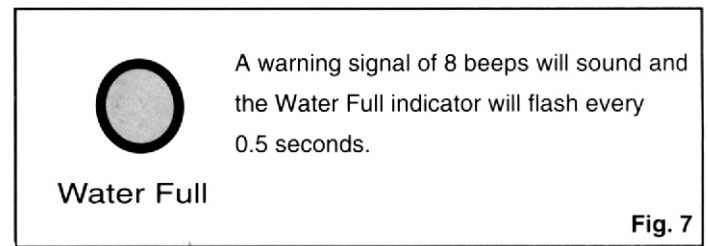

Fig. 7
**Water Full Indicator Light:** Flashes red when the water level of the water tank exceeds the maximum set level or if the water tank is not correctly positioned in the cabinet. *Fig. 7.*